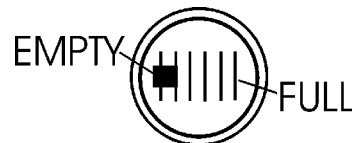

Figure 9. Fuel Gauge
3. Read the fuel gauge located on top of the fuel tank (Figure 9) to determine if the fuel level is low. If fuel is low, replenish with *clean unleaded fuel*.